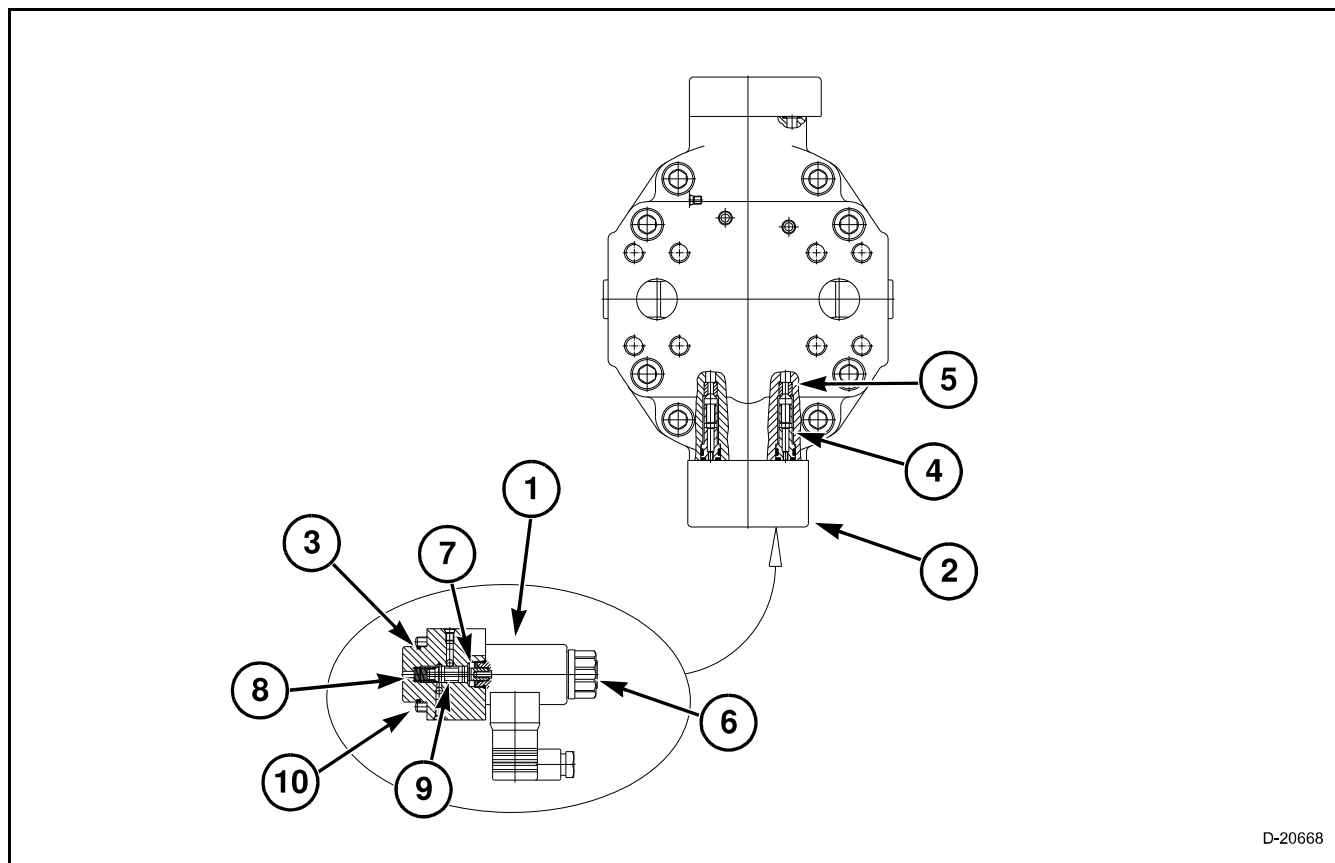

FIG. 687
FIG. 687: Check Valves - If removed, using a suitable arbor press new check valve seats (5) into the motor end cap. Dip the check valve and o-ring assemblies (4) in lubricant and install the check valves.